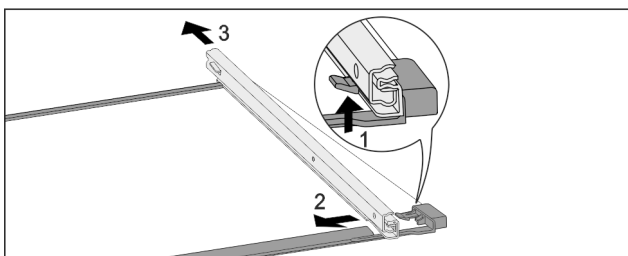

Fig. 170 Glass shelf with rails
- ▶ Push up front click-in hooks. Fig. 170 (1)
- ▶ Move the pull-out rails to the side Fig. 170 (2) and to the rear Fig. 170 (3).